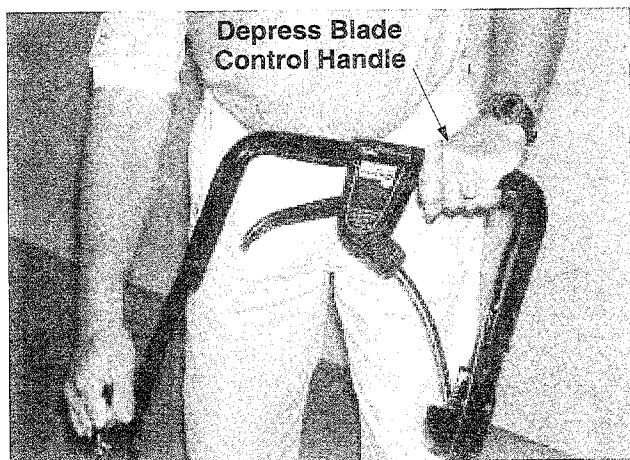

Figure 8
3. Standing behind the unit, depress the blade control handle and hold it against the upper handle. See Figure 8.